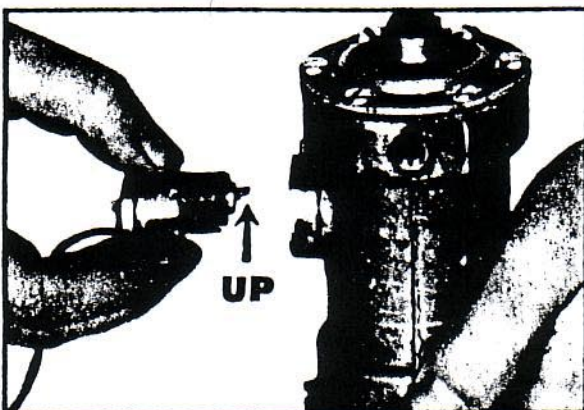

Figure 1.
5. Trip actuator arm of switch upward. (Fig. 1).